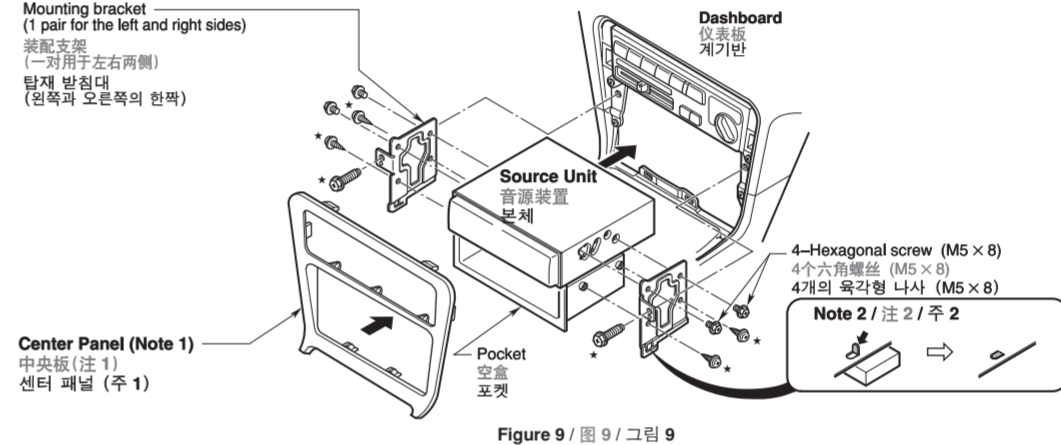

Figure 9 / 圖 9 / 그림 9
This unit is designed for fixed installation in the dashboard. If the vehicle is equipped with a factory-installed radio, install the source unit with the parts and screws marked (*). (Figure 9)
- 1. Secure the mounting brackets to the chassis as shown in Figure 9. When the source unit is installed without the universal mounting bracket, holes exist; modification, such as drilling new holes, of the mounting brackets may be required for other models.
- 1. 如图9所示, 将装配支架固定在底盘上。在不使用通用装配支架的情况下安装主机时, 有现成的安装用孔。其它车型可能需要改造装配支架, 如钻出新孔等。